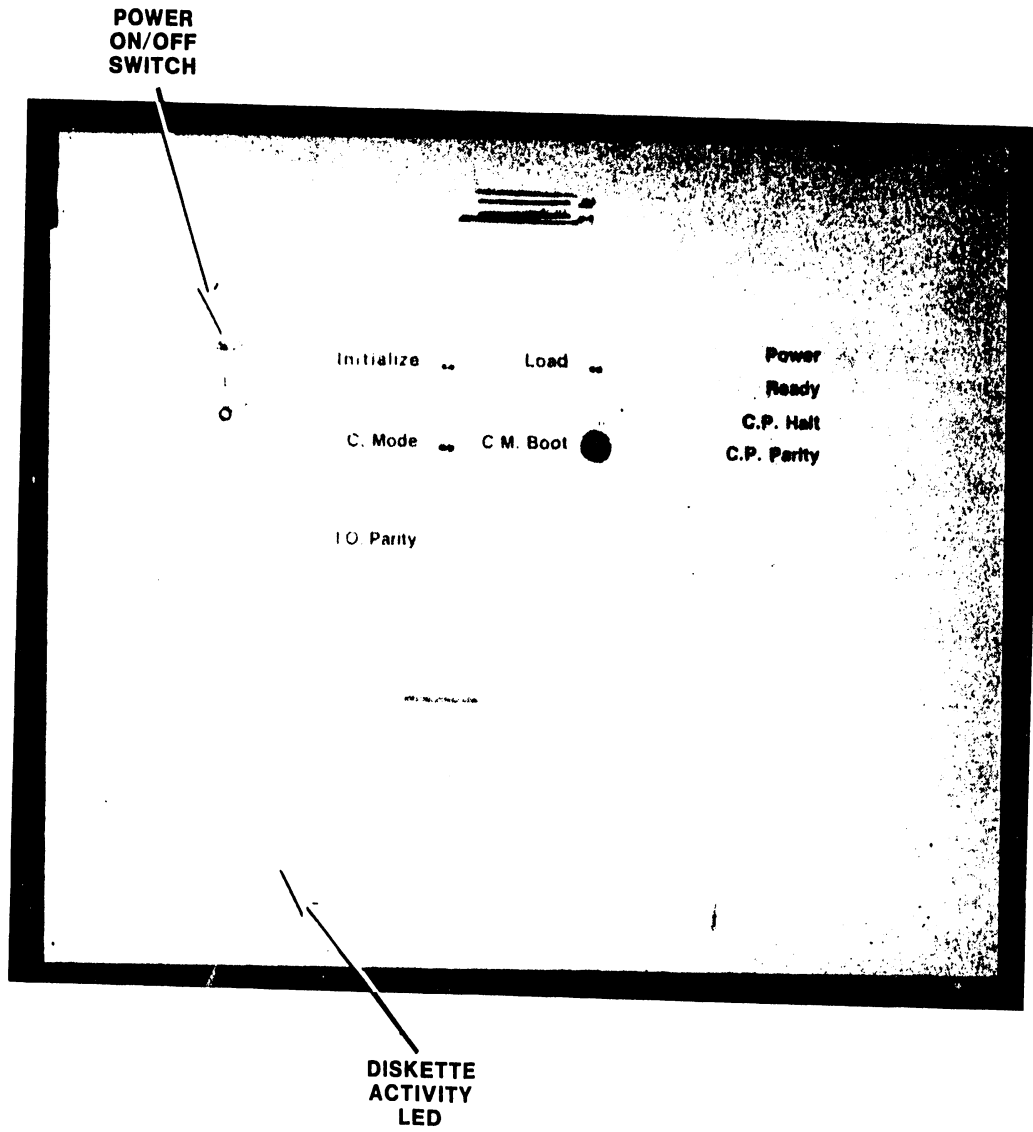

Figure 4-12. VS-85 Display Panel Controls and Indicators
- b. Connect a disk drive to IOP #0, Port 0. This drive is the system disk, storing the Operating System (OS) created during SYSGEN.
2. To load the microcode into Control Memory, insert the microcode diskette into the mini-diskette drive, close the drive door, and press the yellow CM BOOT button on the Display Panel (see figure 4-12).